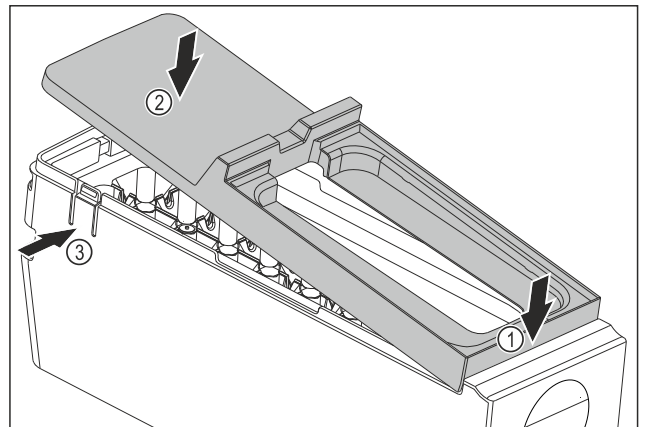

Fig. 79
- ▶ Installing the EasyTwist-Ice body cover: Place the cover on the front. Fig. 79 (1)
- ▶ Lower the cover at the rear. Fig. 79 (2)
- ▶ The cover locks into both tabs Fig. 79 (3) audibly.